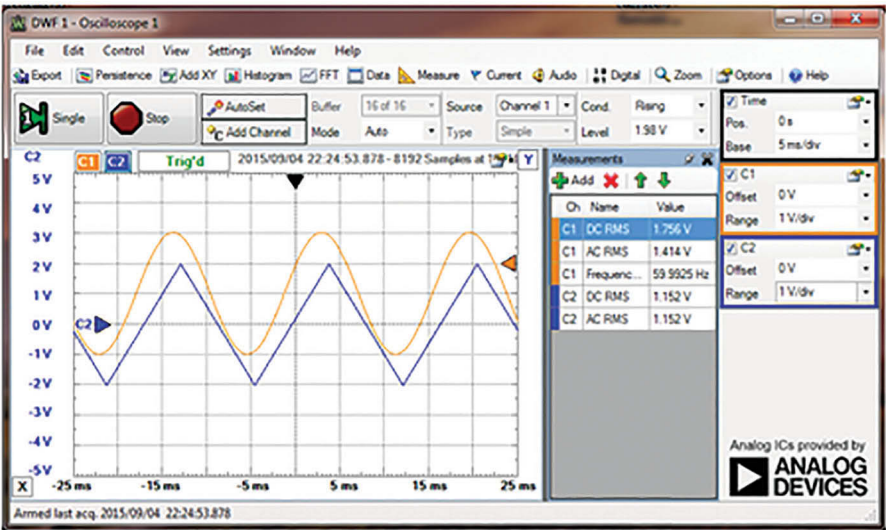

FIGURE 4.9
Figures 4.9 and 4.10 show the dc rms of (1) a sine wave with a dc component and (2) a triangular waveform, respectively. Table 4.1 captures
the information in Figures 4.9 and 4.10. It can be seen from the Table 4.1 that the measured values are very close to the theoretically calculated ones.